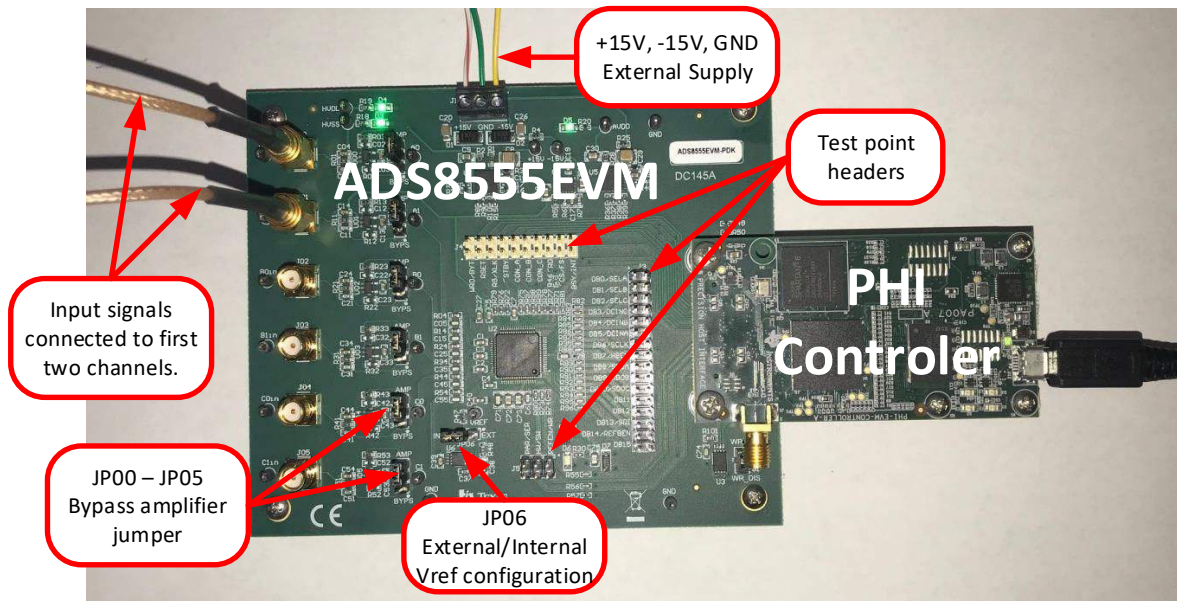

Figure 6-1. ADS8555EVM Hardware Setup and LED Indicators
- b. LEDs D1 and D2 on the PHI start blinking to indicate that the PHI is booted up and communicating with the PC; Figure 6-1 shows the resulting LED indicators.